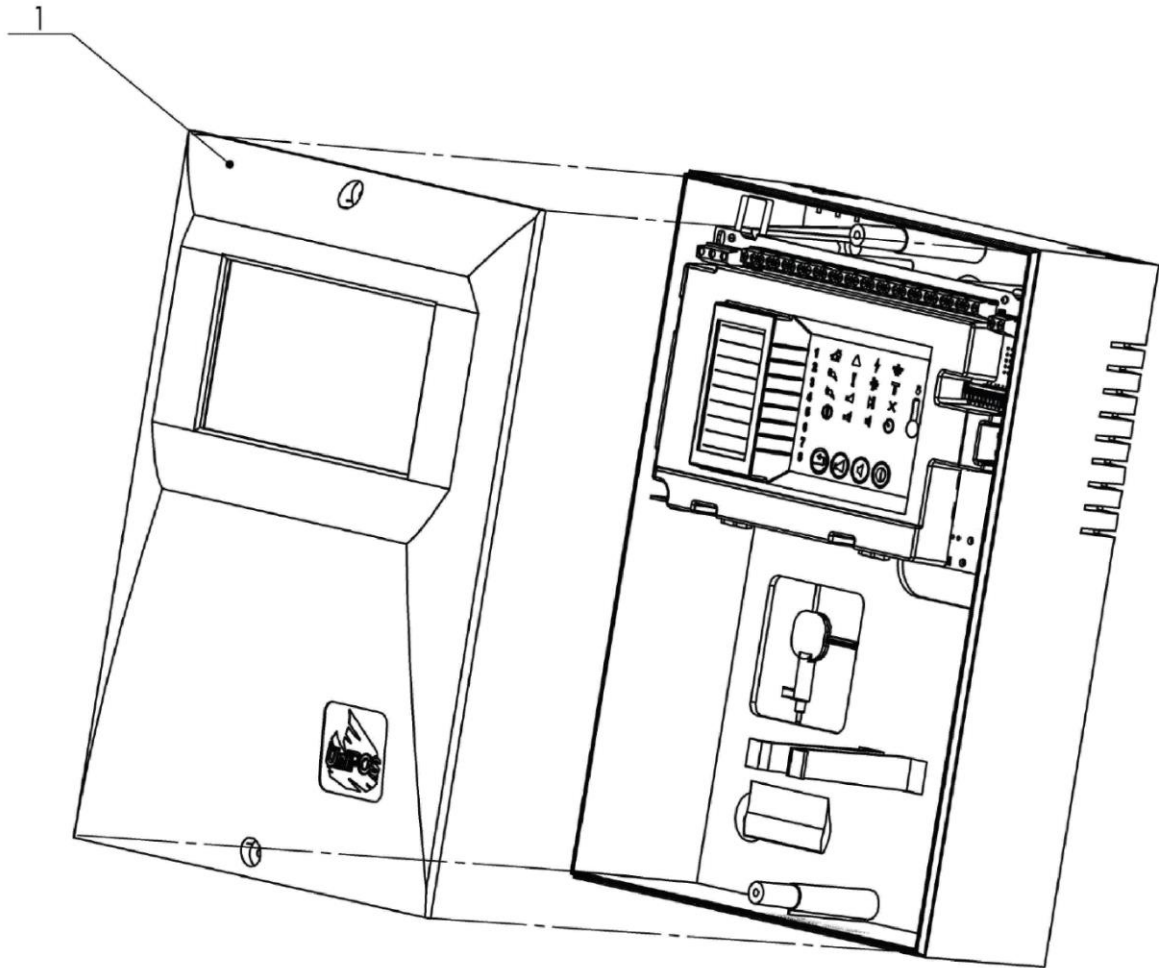

Fig.3
- Unpack the panel and pull-up the front cover (pos.1, fig.3)